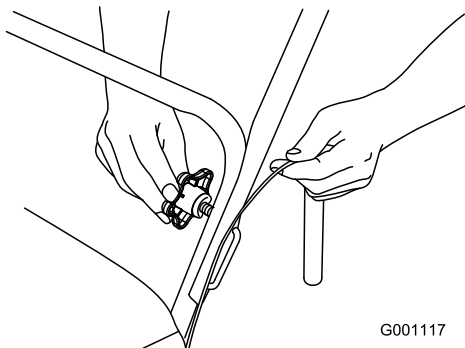

Figure 8
5. Fully insert the handle bolts (Figure 8).
Important: Ensure that you do not pinch the control cable (Figure 8).